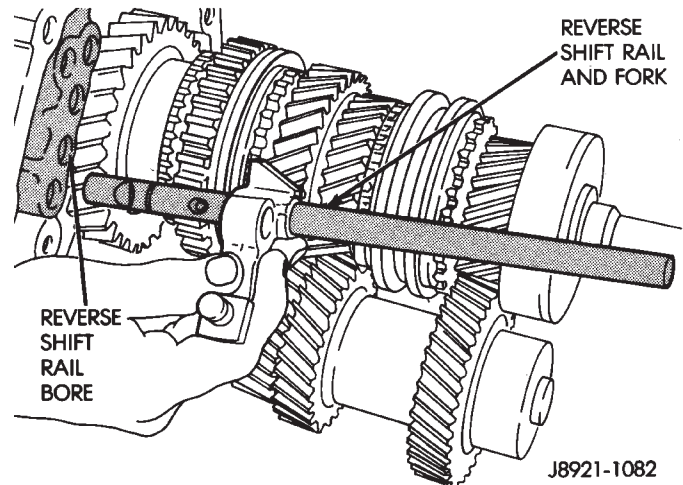

Fig. 52 Removing Reverse Shift Rail And Fork
(13) Remove reverse shift rail and fork (Fig. 52).